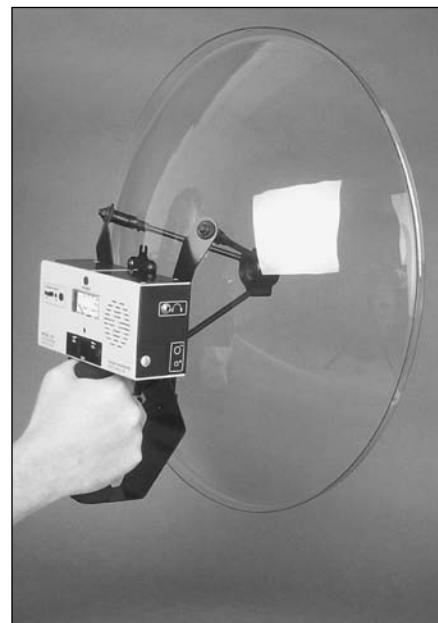

Fig 27.10 — The clear plastic parabolic dish is an “ear” connected to an ultrasonic detector that lets utility personnel listen for the sound of arcs.
- An ultrasonic dish or pinpointer. The RFI investigator, even if not a lineman, can pinpoint sources on the structure down to a component level from the ground using this instrument. See Fig 27.10.